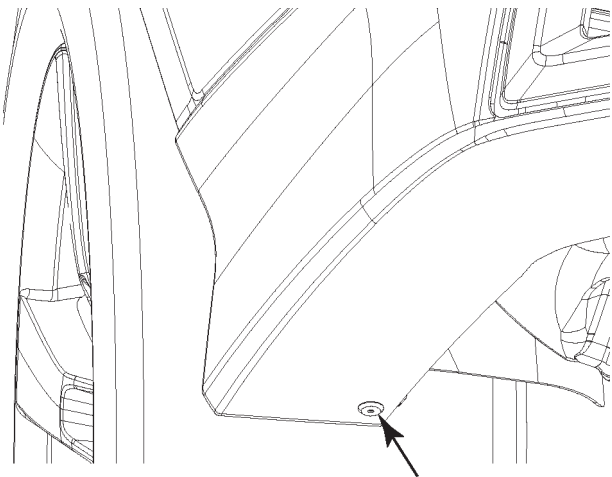

FIGURE 19
30. Using rivets, attach the rear diffuser to the wheel well bracket. Refer to figure 19.